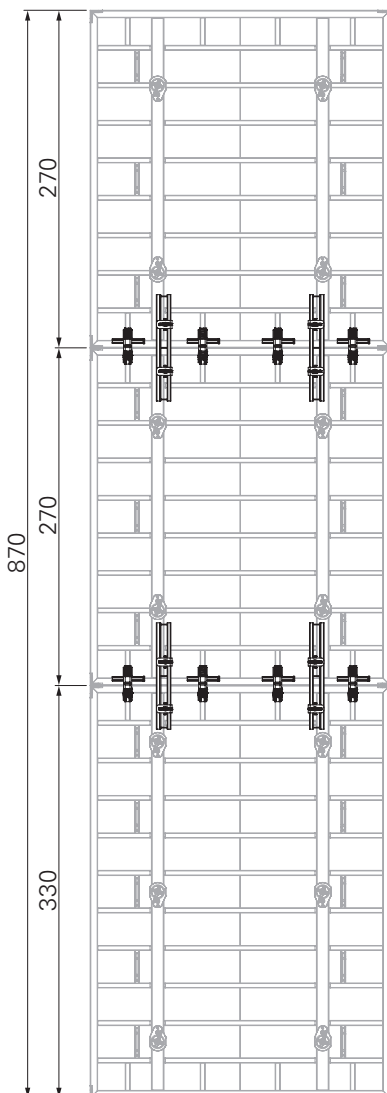
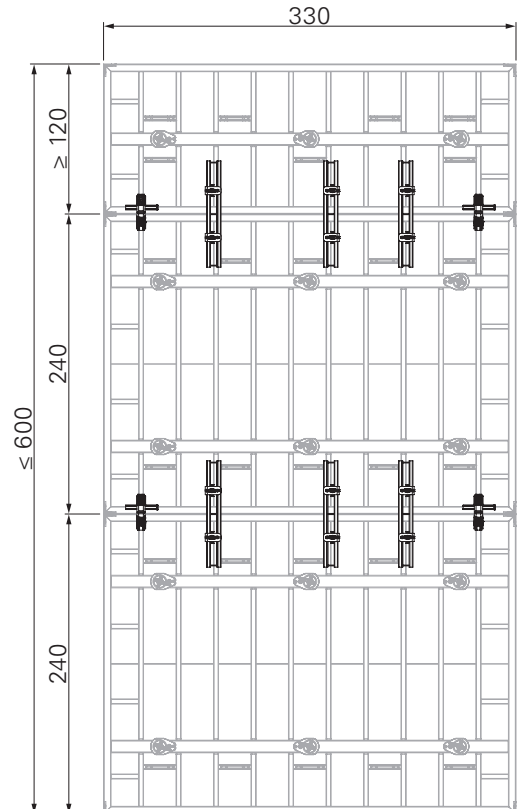

Fig. D10.03a
Fig. D10.03c
- Examples: (Fig. D10.03a – Fig. D10.03c)
- If a Panel MX-2 H = 30 cm is added horizontally, the tie can be dispensed with for this panel. The unused tie point must be sealed with a Plug MXM15 Ø18.3mm (71).